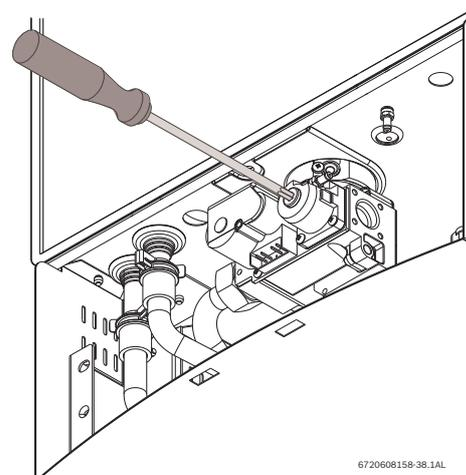

Fig. 59 Adjusting P2 CO2 level
- ▶ Remove yellow painted #40 Torx cover from the front of the gas valve. (Fig. 59) A plastic #40 Torx screw will be revealed.